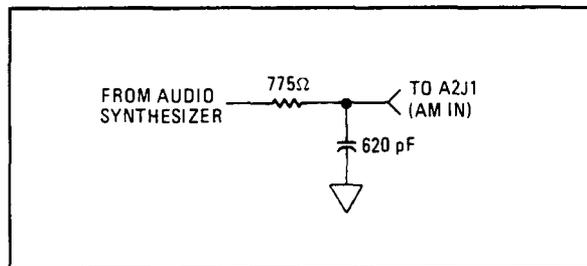

Figure 8F-14. Filter for $\sqrt{1}$ Step 2
2. Construct the input load for the AM input as shown in Figure 8F-14. The 775Ω resistor can be constructed from a 2150Ω resistor in parallel with a 1210Ω resistor.